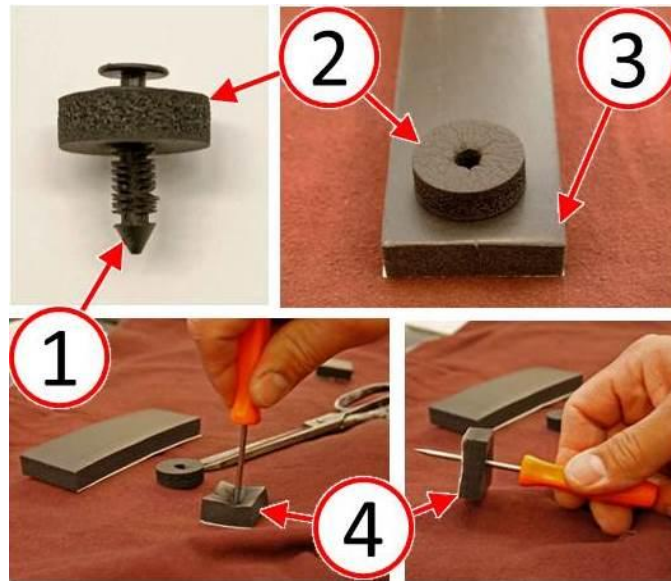

Fig. 3 Create Foam Seal
5. Obtain one piece of foam tape (3) specified in the Parts Required section of this bulletin (Fig. 3).
6. Remove the foam seal (2) from the fir tree fastener (1) (Fig. 3).
7. Place the foam seal (2) on the foam tape (3) and cut a piece of the foam tape approximately the same size as the original round foam seal 32 mm (1.25 in.) (Fig. 3).
8. Pierce a **small** hole (4) through the center of the created foam seal (Fig. 3).